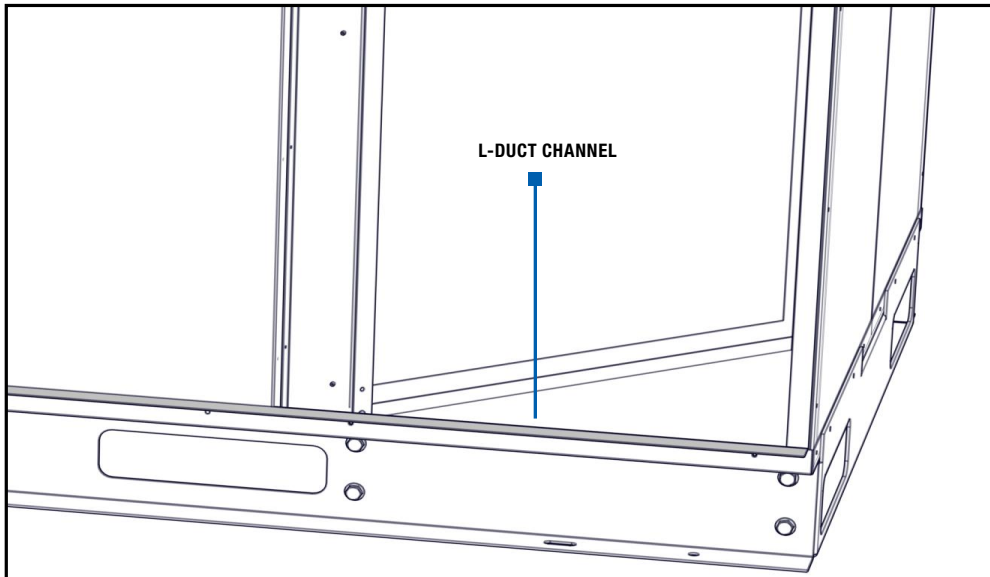

FIGURE 2.2.19 INSTALL L-DUCT CHANNELS
Install (2) L-Duct Flanges, one on each side of the unit, see Figure 2.2.19.